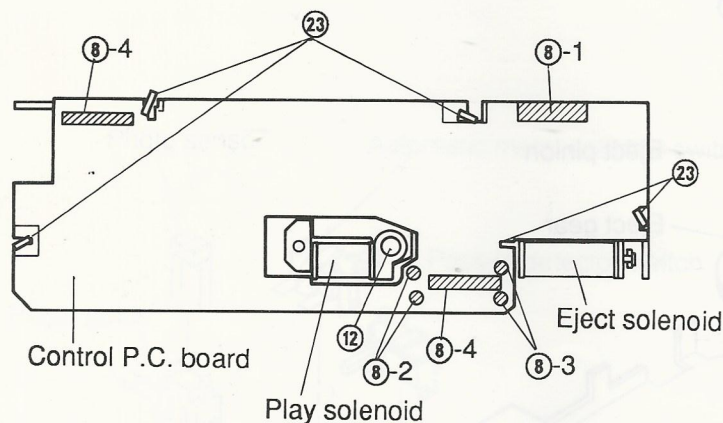

Figure 11
- (2) Remove solder ⑧-1, and remove the parallel wire (5P) from the control PC board as shown in Figure 11.
- (1) Remove the two solders (8-2) as shown in Figure 11.
- (2) Remove one screw (12) and remove the solenoid as shown in Figure 11.
- (3) Mount the new solenoid following the removal steps in the reverse order.
- (1) Remove two solders (8-3). Take care not to loose the tube that protects the wire. (Refer to Figure 11.)
- (1) Remove seven solders (8) and remove the three parallel wires and the wires of the eject solenoid and of the play solenoid as shown in Figure 11.
- (2) Remove the claws (23) and remove the PC board as shown in Figure 11.
- (3) After replacing the old PC board with a new one, mount it following the removal steps in the reverse order.